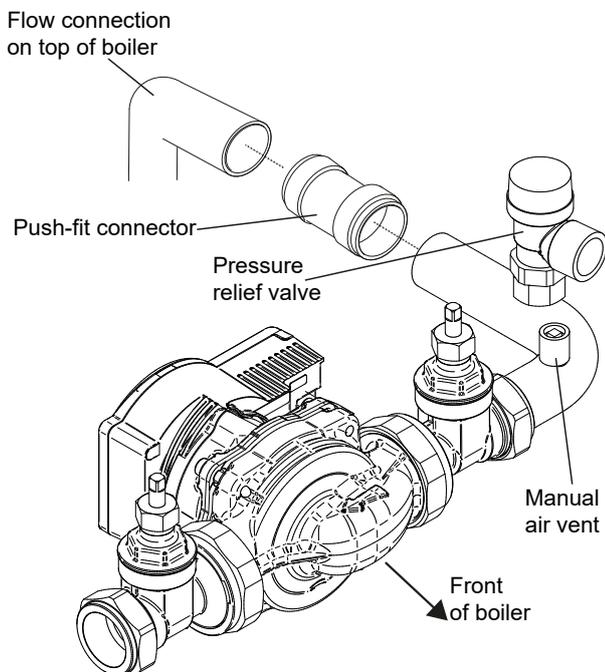

Figure 7-2: Vortex Pro External 26-46 sealed system kit pump assembly (Wilo Para SC pump shown)
- Fit the pressure relief valve onto the manifold pipe, then push the manifold pipe end into the 28 mm push-fit elbow on the flow pipe. Refer to Figure 7-2.